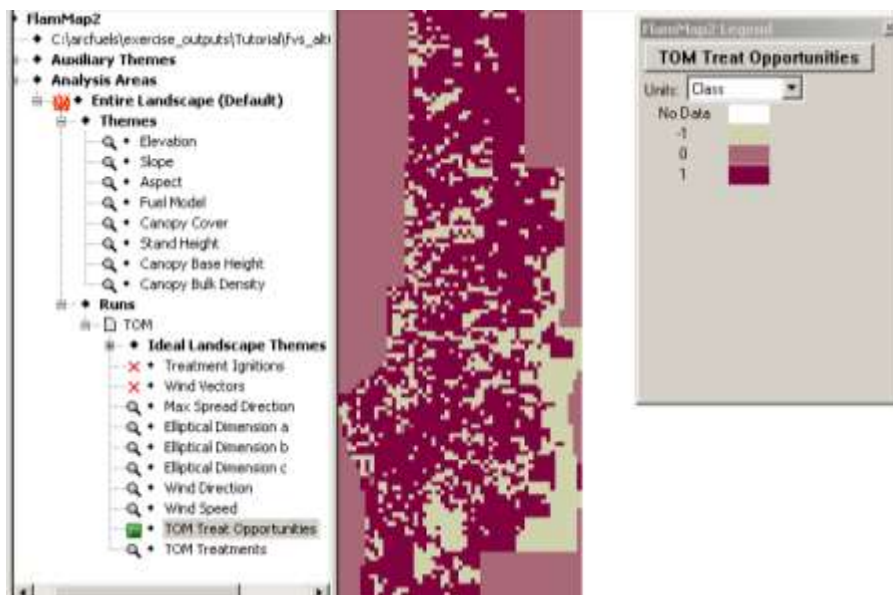

Figure 4-62—The TOM Treatment Opportunities output.
- 6) Under the **Runs** section, expand the **TOM** run in the tree pane. Display the **TOM Treat Opportunities** theme, and open the legend (fig. 4-62). The **TOM Treat Opportunities** theme compares the fire behavior for the two LCPs. If the value is 1, the rate of spread is less in the ideal landscape. If the value is -1, the rate of spread is greater in the ideal landscape. And areas with a zero value indicate no difference in the rate of spread between the LCPs. TOM will only select from the areas where the value is 1.